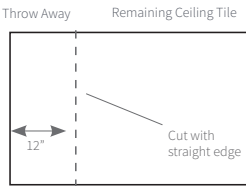
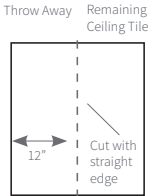

Figure 2:
Figure 4:
- Using a straight edge, cut a 1' x 2' section from the ceiling tile, leaving a 1' x 2' section and a 2' x 3' section (Figure 2), or two 1' x 2' sections (Figure 4).